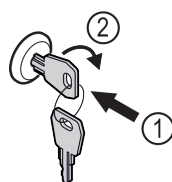

Fig. 152 Example illustration
- ▶ Insert key Fig. 152 (1).
- ▶ Turn key clockwise by 90° Fig. 152 (2).